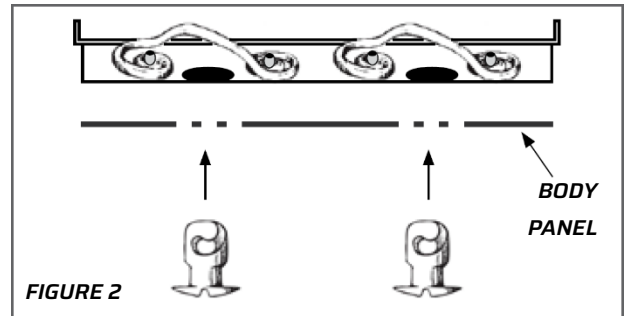

FIGURE 2
Secure assembled Box Mount (A) to holes previously drilled in body panel using four Quick Turn Fasteners (B). See Figure 2 and 3.